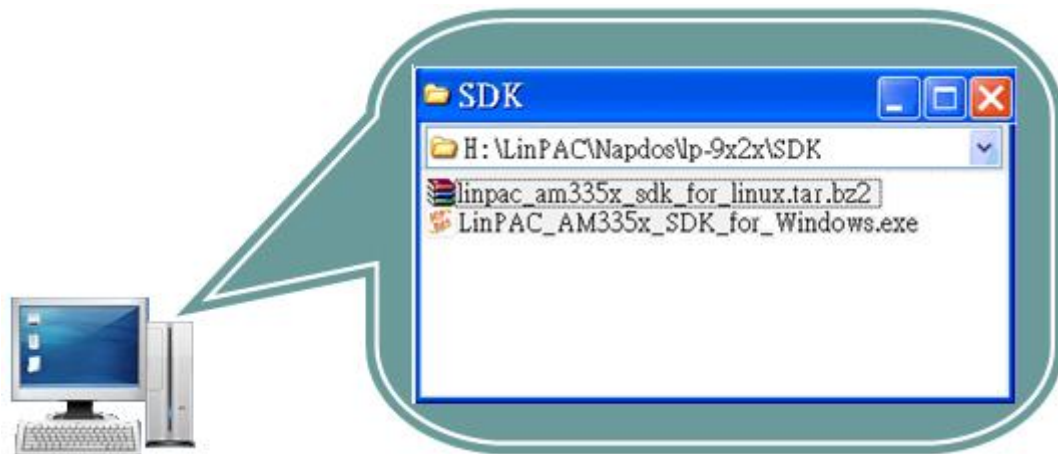

Figure 1.3.2-3.
3. Try the following command to decompress file. (Refer to Figure 1.3.2-4)